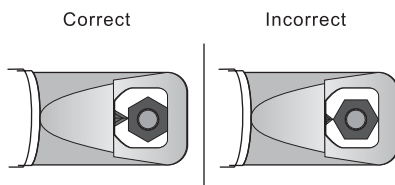

Figure 2
- Put the nut splitter in appropriate position, please correct put the splitter head in right position (Please see Figure 2). Incorrect placement of Nut splitter on the nut may result in failure.